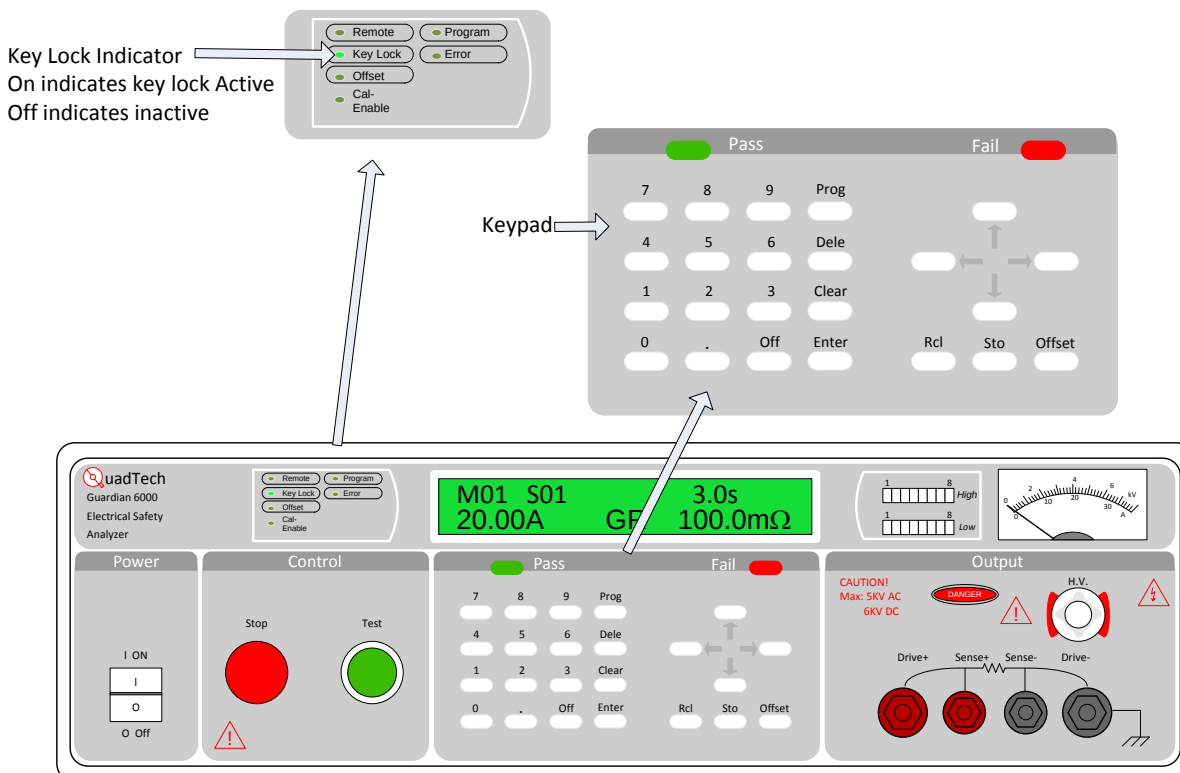

Figure 1: QuadTech Guardian 6000 front panel with Key Lock and keypad
- 3.1.1. Look at the analyzers front panel to see if Key Lock is locked by observing the LED in Figure 1. If Key Lock is locked go to step 3.1.2 to disable it, if not continue to step 3.2.